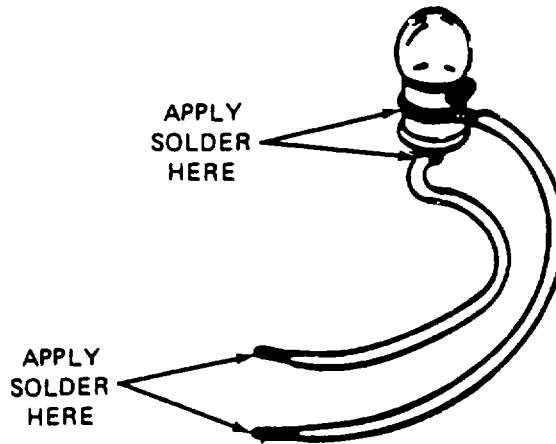

Figure B-1. Voltage Indicator Made from Light Bulb.
a. Making a Voltage Indicator. A voltage indicator can be made from a light bulb and two pieces of wire (figure B-1). The pieces of wire can be connected to the case and center terminal of the bulb by means of solder, twisting, or simply holding the wire ends against the bulb (see illustration). The voltage rating of the bulb should be close to the value of the expected voltage being tested. For voltages in the 18 to 30V dc range, any light bulb on the driver's master panel, driver's instrument panel, gunner's panel, commander's panel, or gunner's primary sight can be used. For voltages of 5V dc or less a two-battery cell flashlight can be used. The presence of voltage will cause the bulb to glow. Polarity of DC voltage does not have to be observed; even ac voltage can be measured. Twist exposed wire ends together and I apply solder, if available, and solder. Touch wires to voltage source when ready to test for voltage.